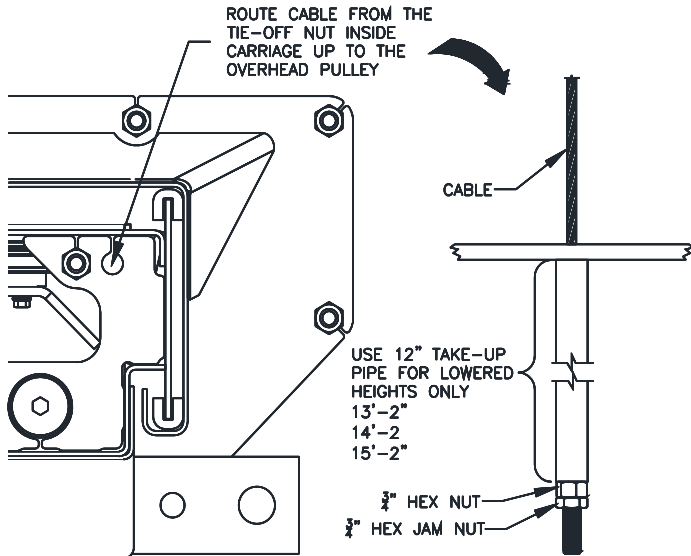

Fig. 10 – Cable Assembly/ Cable Extensions
- 22) Mount synchronizer cables to carriages as shown in **Fig. 10**. **Note: Do Not Use the 12" take-up pipe on the 13'-8", 14'-8", & 15'-8" heights.**